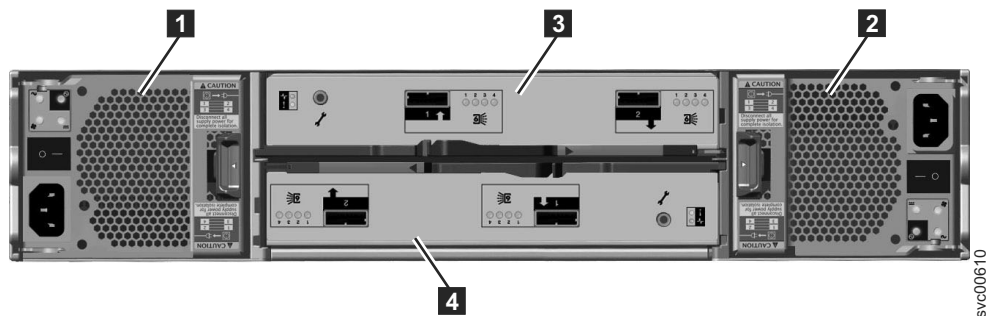

Figure 6. Rear view of a model 2076-212 or a model 2076-224 expansion enclosure
- Two canisters are housed in the middle of the enclosure. Each canister is known as a node canister. The upper canister, as shown in Figure 6 on page 8, is canister **3**, and the lower canister is canister **4**. Canister **3** is top side up, and canister **4** is inverted, or top side down.
Figure 6 shows the rear view of an expansion enclosure and identifies the location of the power supply units and the canisters. The ports and their use are described later in this section.
- Two canisters are housed in the middle of the enclosure. Each canister is known as an expansion canister. The upper canister, as shown in Figure 6, is canister **3**, and the lower canister is canister **4**. Canister 1 is top side up, and canister 2 is inverted, or top side down.